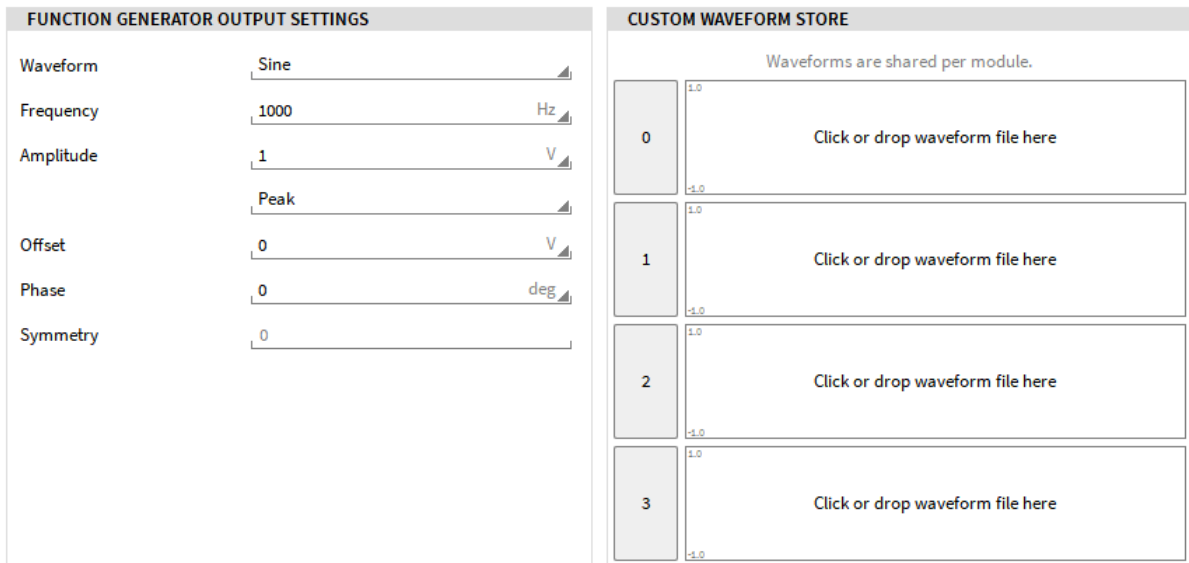

Fig. 4.10: Function Generator settings
As a last mode the Function Generator is available. The different settings can be seen in Fig. 4.10
- Waveform: sine, square or triangle waveform can be selected or an individual pattern, which can be defined in the *Custom Waveform Store* section (see Fig. 4.10). For a more detailed explanation see *Custom Waveform Store*.